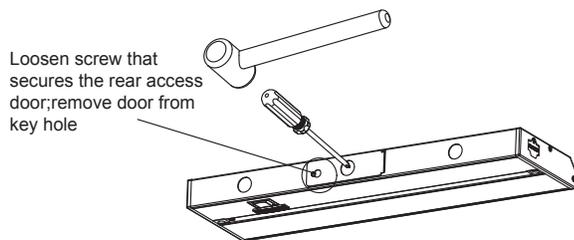

Figure 4
2. Carefully loosen the screw that secures the rear access door using a Phillips screwdriver and remove knockout using a hammer or punch. If the knock-out did not break free, use pliers and bend it back and forth until it snaps off (Fig. 4).